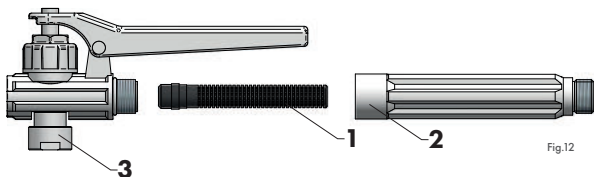

Fig.12
Move the sprayer to the work site. Use the piston rod (fig. 7c) to pump the sprayer (around 20 full motions) until the safety valve operates (fig. 7a/pos. 1). As soon as the safety valve opens (fig. 7a/pos. 1), maximum tank pressure has been reached. Monitor the tank pressure on the pressure gauge (fig. 12/pos. 3).
During operation, the pressure in the tank will decrease. Monitor the pressure on the pressure gauge (fig. 12/pos. 3). Restore the tank pressure by pumping.
The filter (fig. 12/pos. 1) located on the lance handle (fig. 12/pos. 2) and the adjustable nozzle (fig. 10/pos. 1) located at the lance tip (fig. 1/pos. 1) must be cleaned periodically and before any prolonged downtime.
| Low lance output pressure (fig. 1/pos. 1). | Clogged filter (fig. 12/pos. 1) in the lance handle (fig. 12/pos. 2). | Remove handle (fig. 12/pos. 2), check filter condition (fig. 12/pos. 1). Remove any contaminants. |